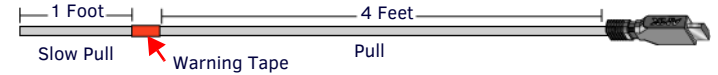

FIG. 3 EXTRACTING CABLE - WARNING BAND
5. Watch for a red tape on the cable when extracting. It is a warning to slow pull for the final 1 foot to avoid damage to the RCM (FIG. 3).